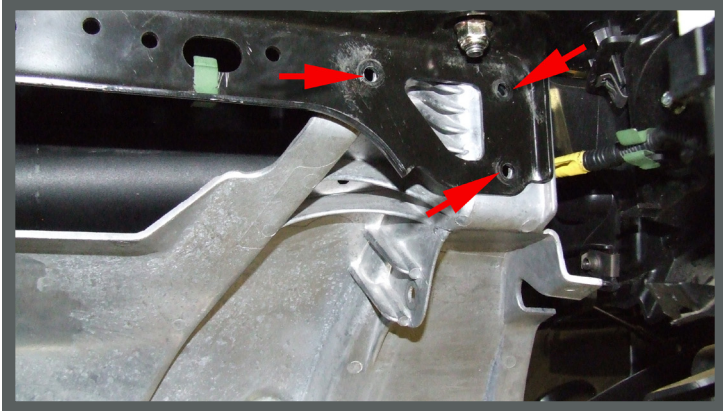

Figure 1
2. Remove the **(3) Bolts** (See Fig. 1) and **Plastic Bolt** located in the trunk. (See Fig. 2)